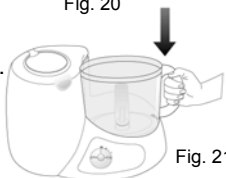

Fig. 21
1. Place the food processor bowl onto the processor body. (Fig. 21)